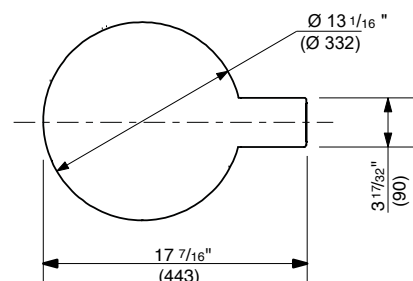

Fig 11
- Cut the cover disc according to the specifications outlined in Figure 11.